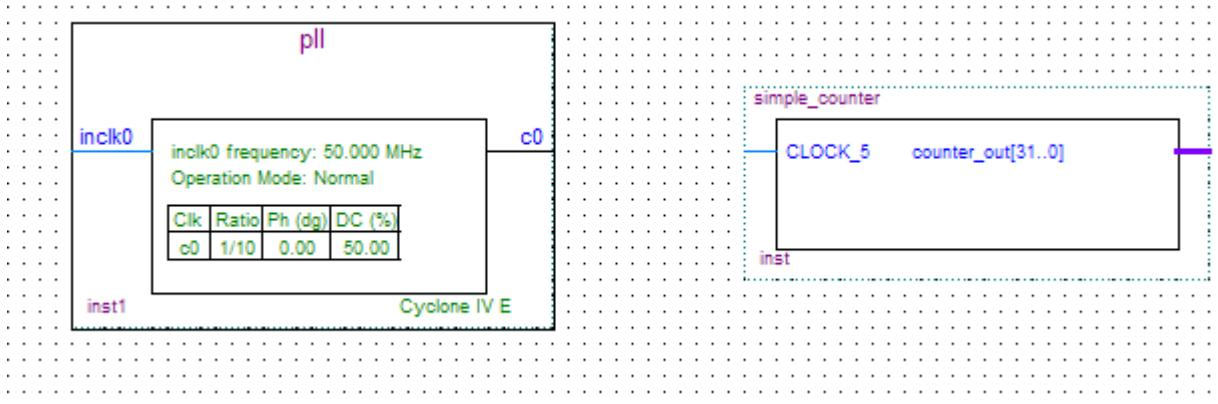

Figure 6-26 Place the PLL Symbol
11. Click **OK** and place the pll symbol onto the BDF to the left of the simple\_counter symbol. You can drag and drop the symbols, if you need to rearrange them. See Figure 6-26.